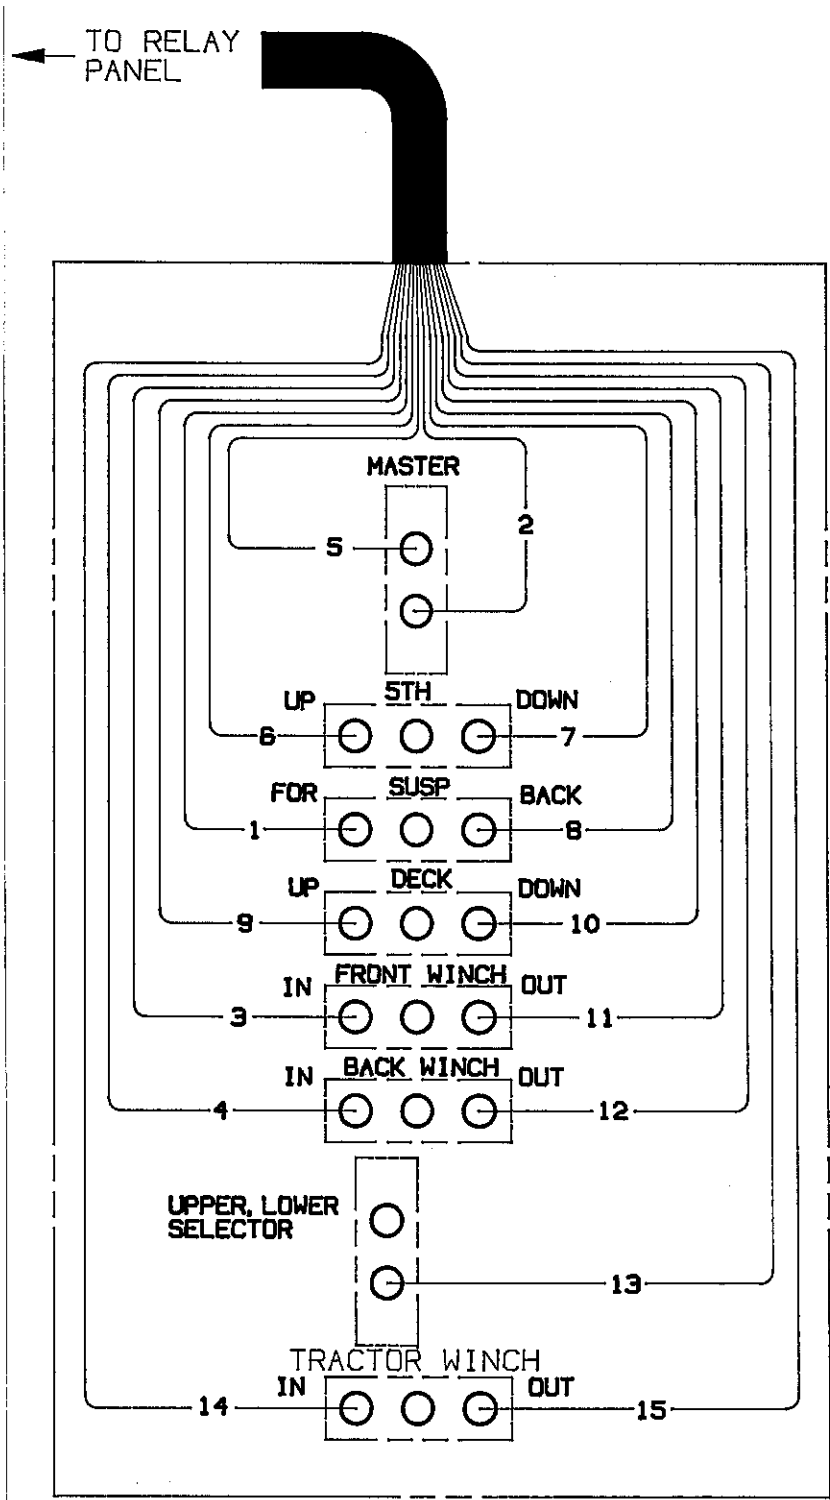

Figure 5
9. Insert the forked terminal end of the new cable through the cable connector of the hand control. Wire the cable to the hand control switches per Figure 5 matching stamped wire numbers with the proper switch terminal. Allow sufficient cable slack inside the control and tighten cable connector.